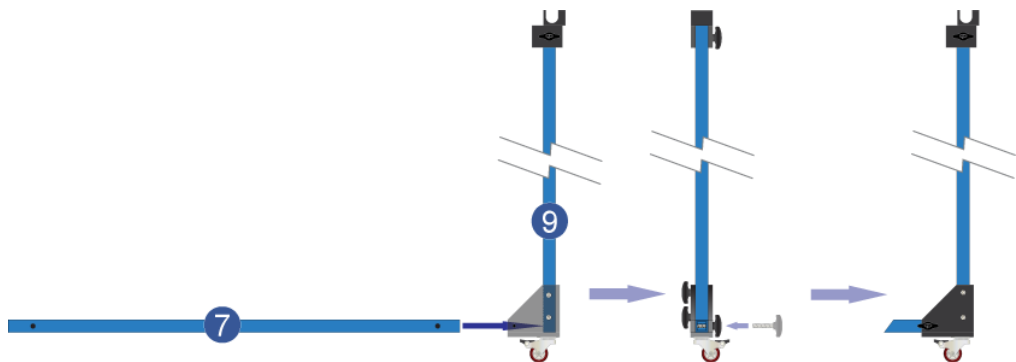

Figure 8 - ALT-930-2M Triple Loop Antenna Assembly – Step #4
- Step #4** Insert the ends of the Horizontal Support Beams7 into the horizontal channel of each of the Corner Base Supports with Swivel Caster, Vertical Post & Dual Loop Clamp Assemblies9 as shown in Figure 8. The ends of the beam should butt up against the sides of the vertical posts. Re-insert the (4) finger knob bolts removed in Step #3 through the support beams and tighten to lock the beams firmly in place.